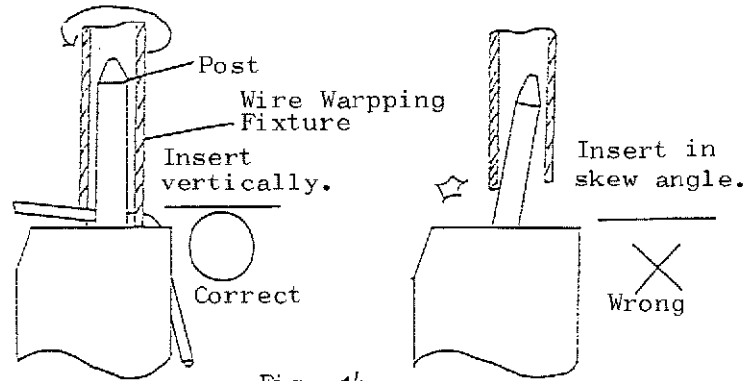

Fig. 14
- (1) By using wire wrapping fixture, wrap the magnet wire around the post as shown in Fig. 14.
- (2) Apply the fixture vertically over the post, as you insert the post into the wire wrapping fixture.